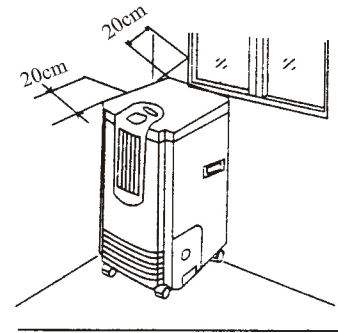

Fig. 2
2. The left side of indoor unit should leave the objects (such as curtain, wall, etc) no less than 20CM. To guarantee smooth ventilation the alien things should not block outlet. (Fig.2)